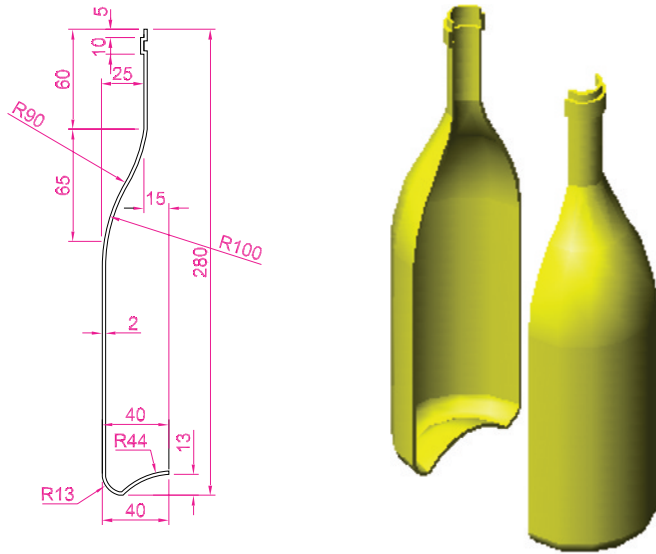

Fig. 15.25 Second example – Slice
Second example – Slice (Fig. 15.25)
1. Construct the closed pline (left-hand drawing of Fig. 15.25) and with the **Revolve** tool, form a solid of revolution from the pline.